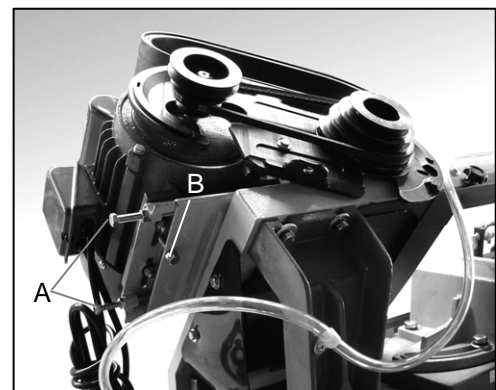

Fig. 5
2. Loosen the motor plate lock bolts (B, Fig. 5)
3. Loosen motor tension bolts (A) until belt can be moved on the pulleys.
5. Tighten motor tension bolts (A) to re-tension belt.
6. Tighten motor plate lock bolt (B).